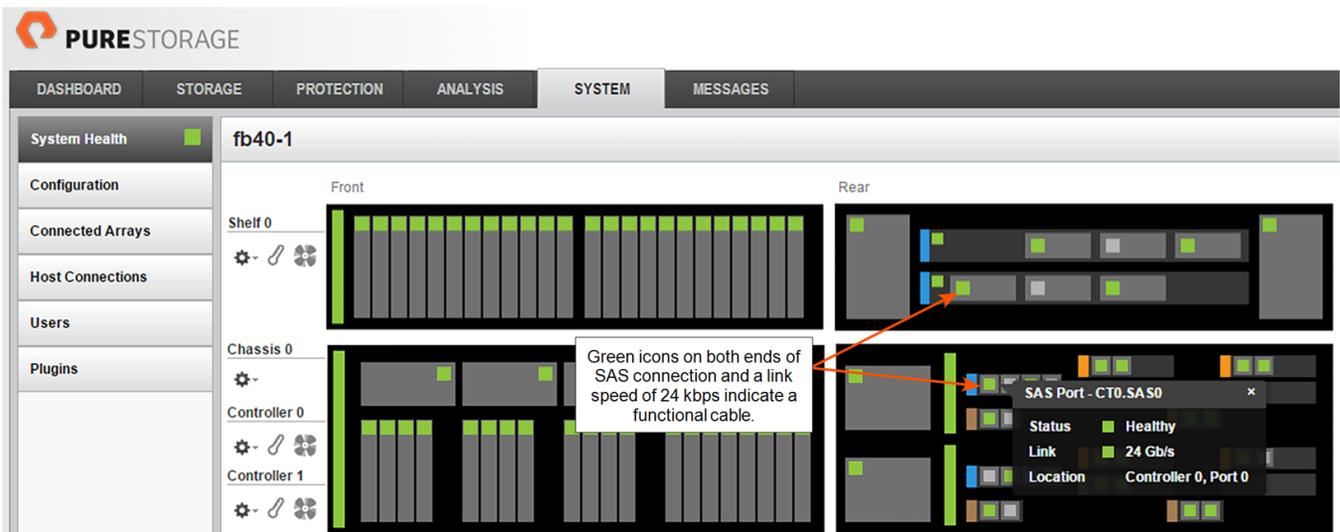

Figure 5-10. GUI Indication of Functional SAS Cable
- 2. Request that the customer or a Pure Storage Technical Support representative use the GUI or CLI to verify that the entire SAS path is functioning. See Figure 5-10 for an example of GUI indicators and Figure 5-11 for an example of CLI indicators that reflect functioning SAS paths.